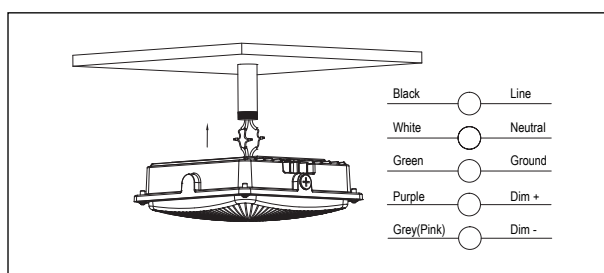

Figure 2
2. Connect the wires as shown below. (Figure 2)